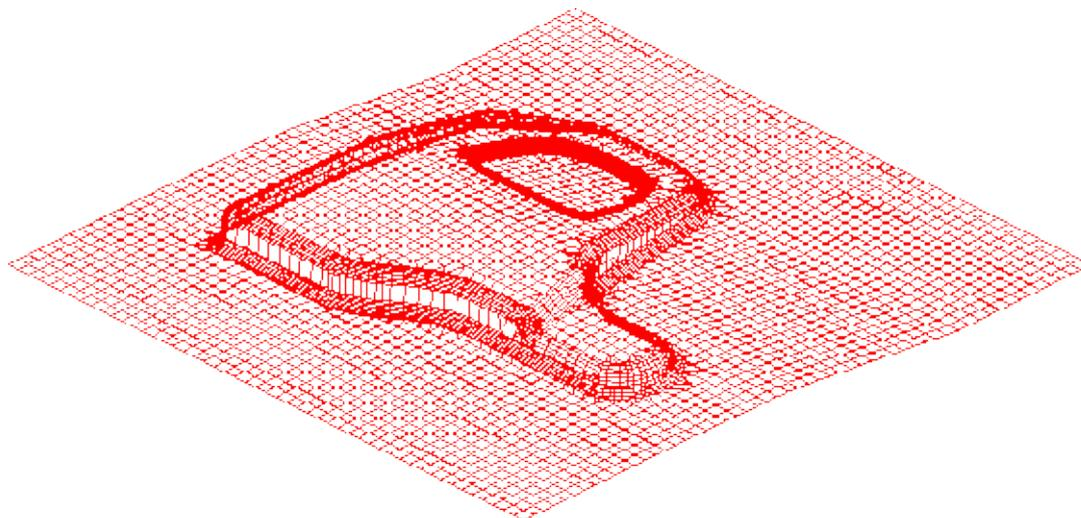

Figure 5.15 After part meshing
- The generated mesh is white. Click **Yes** when prompted, “**Accept Mesh?**” in the SURFACE MESH dialog box. Then, compare the mesh with Figure 5.15.